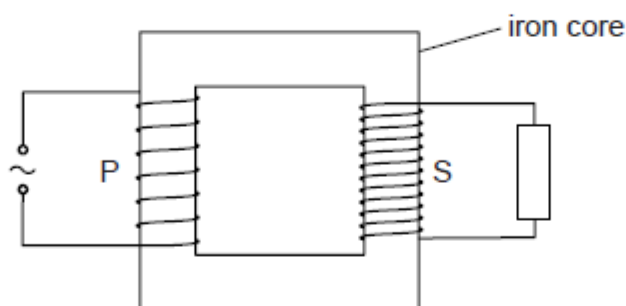

Fig. 8.1
- (b) Fig. 8.1 represents a transformer with primary coil P and secondary coil S, wound on an iron core.